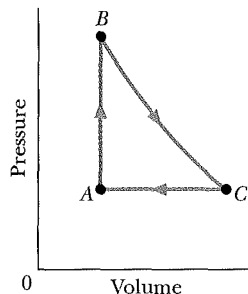

Fig. 18-40 Problem 48.
•48 GO Gas held within a chamber passes through the cycle shown in Fig. 18-40. Determine the energy transferred by the system as heat during process CA if the energy added as heat Q_{AB} during process AB is 20.0 J, no energy is transferred as heat during process BC , and the net work done during the cycle is 15.0 J.